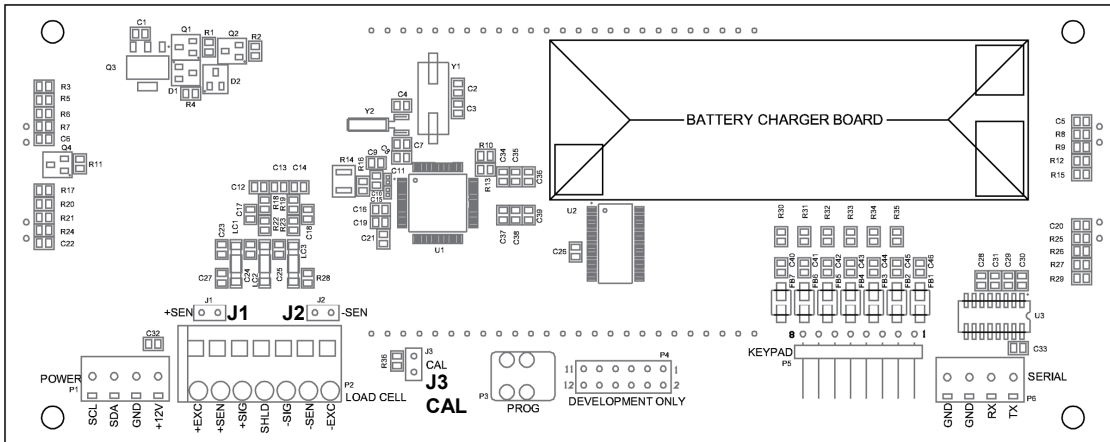

Figure No. 9
**\* NOTE:** If the sense leads are NOT used, you must install plug-in jumpers at J1 and J2 adjacent to the terminal block. These jumpers attach the sense leads to the excitation leads. If sense leads ARE used (as in motor truck scales), these plug-in jumpers should be positioned on one plug-in pin only or removed and stored for later use (see Figure No. 9).
4. Connect each of the wires to the Serial Data terminal block (P6) referring to Figure No. 9 for terminal block locations.